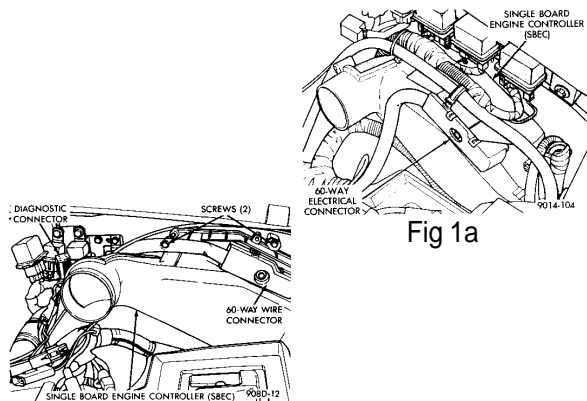

Fig 1a
3. Remove the 60 way connector for the wiring harness using an 8mm socket (Fig. 1a, b c)
4. Using the same socket, remove the (2) module mounting screws {(3) screws on full size pickup} (Fig. 1a, b, c)